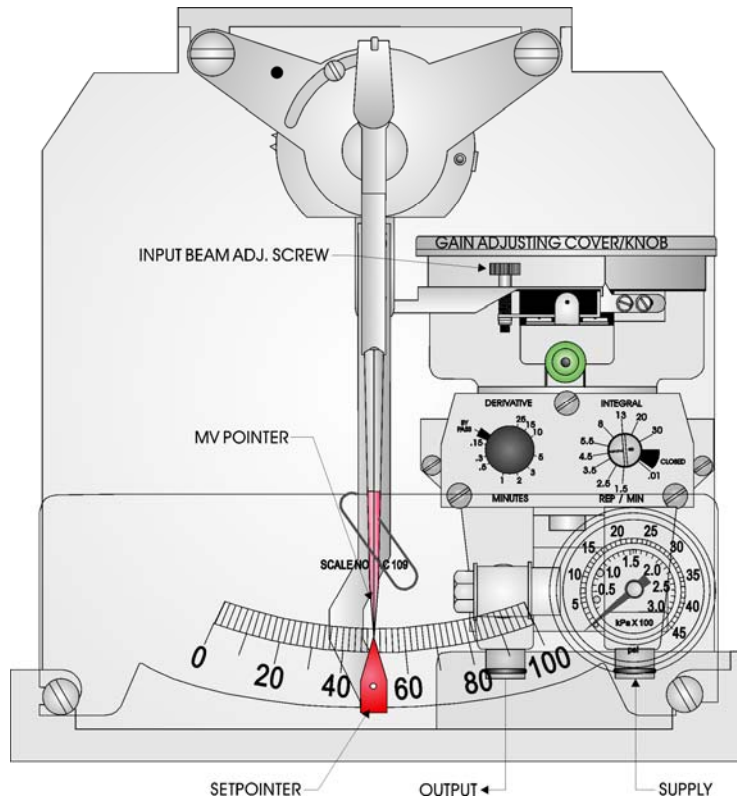

Figure 3-9 - Transmitter In Calibration Test Fixture
8. If the Setpointer Balance Point is offset from the MV Pointer by a small amount, correct it by turning the Setpoint Adjustment Screw on the Setpointer. For larger errors, turn the Setpoint Adjustment Screw to the middle of its range and turn the Input Beam Adjust Screw on the Controller (Figure 3-9) to correct. Readjust the Setpoint Adjust Screw if required.
(see Figure 3-9)
12. If the Setpointer indication is now displaced from the MV Pointer by a small amount, correct it by turning the Setpoint Adjustment Screw to the middle of its range and turn the Input Beam Adjustment Screw on the Control Unit (see Figure 3-9) to correct. Readjust the Setpoint Screw if required.
Certain adjustments at the top of the Controller are not accessible inside the case and require the use of a special Test Calibration Fixture for bench calibration (see Figure 3-9).
10. Mount the Controller in the Test Fixture (see Figure 3-9) using two captive screws.
27. Anchor the Measured Variable (MV) Pointer to the scale at the 50% mark with a paper clip (see Figure 3-9).
- To make it easier to align the Measured Variable Pointer with the Setpointer, disconnect the Measured Variable Connecting Link from the Measured Variable (see Figure 3-9).